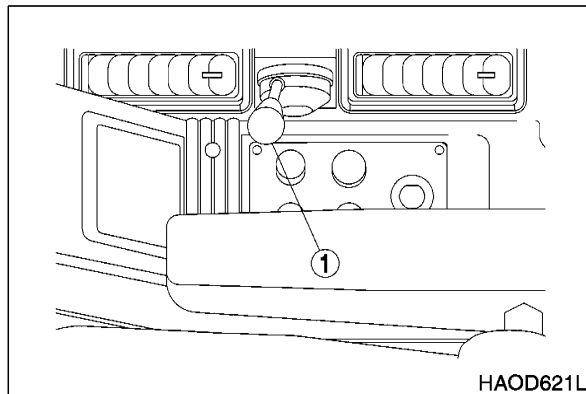

Figure 18
1. Run engine at “LOW IDLE” (no load) for 5 minutes (Figure 18).